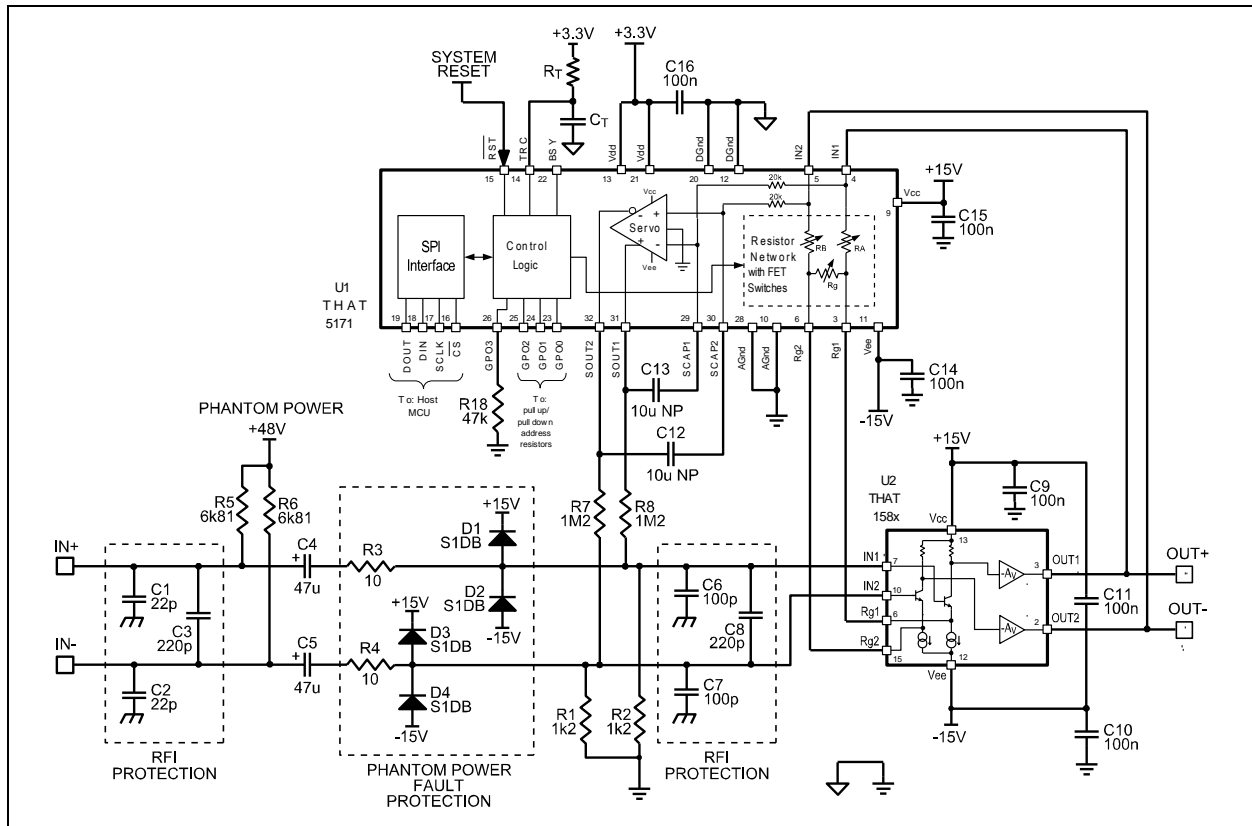
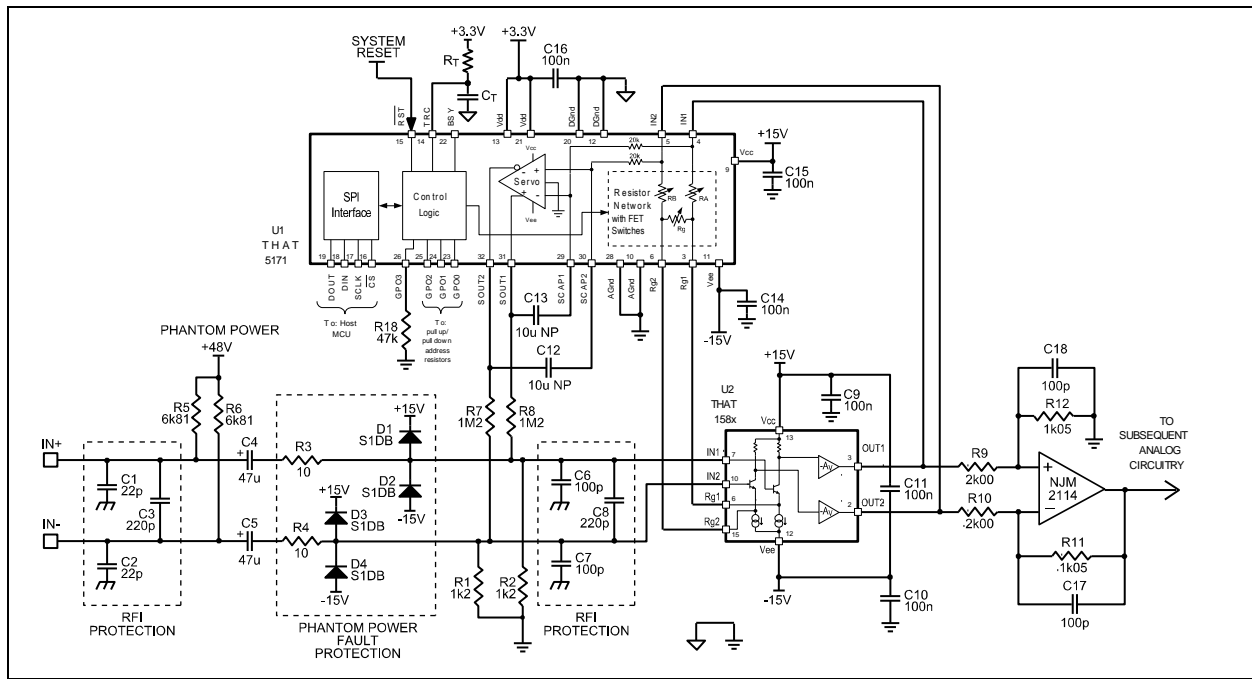

Figure 4. 5171/ 158x basic application circuit.
Figure 5. 5171/158x typical application with single-ended output.
The circuit of Figure 4 shows the most basic application of the 5171 and 1580 to form a complete low-noise microphone preamplifier.
The circuit of Figure 4 offers differential gain that varies from 5.6 to 68.6dB. There is one large ~8dB step from 5.6dB to 13.6dB. Above 13.6dB, gain may be controlled in 1dB steps to +68.6dB. For single-ended analog outputs, the circuit of Figure 4 can be followed by a differential-to-single-ended converter, as shown in Figure 5. Here, the differential amplifier is configured for -5.6dB gain in order to minimize noise and maximize headroom at the output of the circuit. Including the 5.6dB attenuation in the differential amplifier, the system gain can be set to 0dB, or any gain from +8dB to +63dB in 1dB steps.
With the circuit of Figure 5, the maximum input signal levels remain the same, but the (now single-ended) output levels drop by 5.6dB due to the loss of the differential amplifier. When converting to single-ended signals, take care to select a low-noise opamp, and pay attention to the noise generated by the impedances. The component values shown in Figure 5 will largely preserve the dynamic range of the 1580 and 5171 combination, though they do compromise noise by 1dB at the lowest gain settings.
The circuits of Fig 4 through 7 include RFI protection in two sections. Small capacitors (C_1 and C_2) are used from the positive and negative signal inputs to chassis ground, along with a larger capacitor (C_3) across the two inputs. These components should be located as close as possible to the input signal connector, and are intended to prevent RF from entering the chassis of the device.
- 2) **ZERO-CROSSING Mode:** Updates are made on the next output signal zero-crossing after a rising edge on the /CS pin. An RC time constant connected to the TRC pin (R_T/C_T in Figures 4~7) establishes a time-out period in case a zero-crossing does not occur within a desired time window. The zero-crossing time-out function operates as follows: